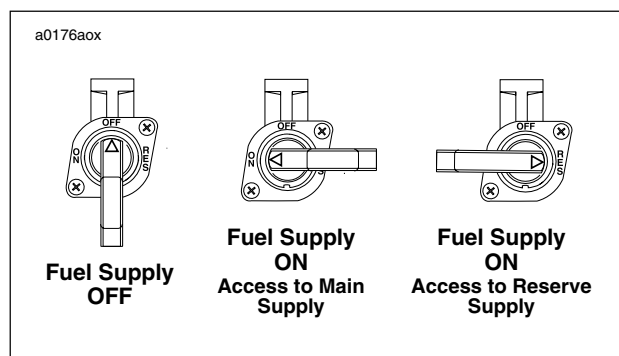

Figure 4-34. Fuel Supply Valve Positions.
1. See Figure 4-34. Turn fuel supply valve OFF.